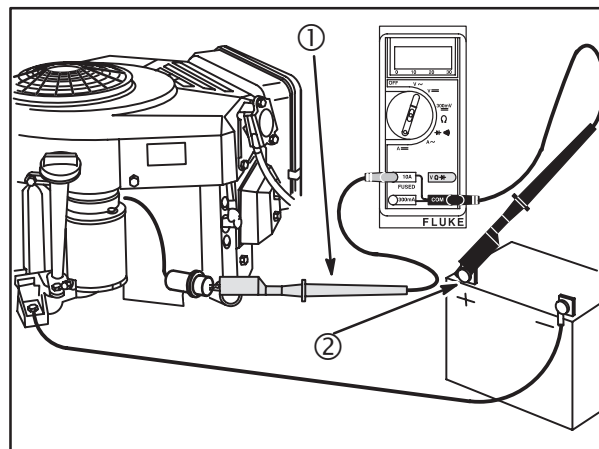

Fig. 13
4. Attach RED test lead clip (1) to DC output terminal, **Fig. 13**.
5. Attach BLACK test lead clip to POSITIVE (+) battery terminal (2).